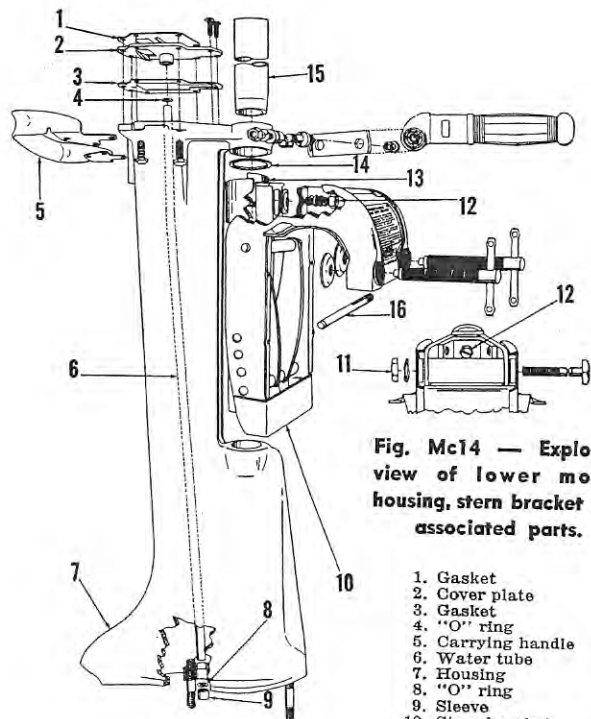

Fig. Mc14 — Exploded view of lower motor housing, stern bracket and associated parts.
STEERING TENSION. The steering tension adjustment screw (12—Fig. Mc14) adjusts the friction between pad (13) and pivot tube (15). Adjust the screw until motor is easy to steer but will maintain a set course.